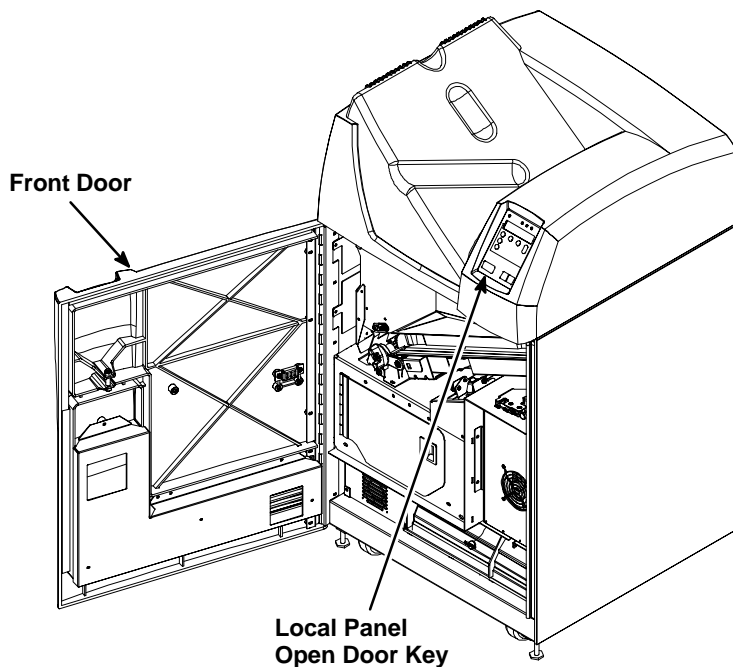

Figure 3-3. Opening the Front Door Via the Local Panel
1. Press and release the **Open Door** key on the Local Panel (see Figure 3-3). The imager will close the film cartridge, to avoid exposing film, and then unlatch the door.